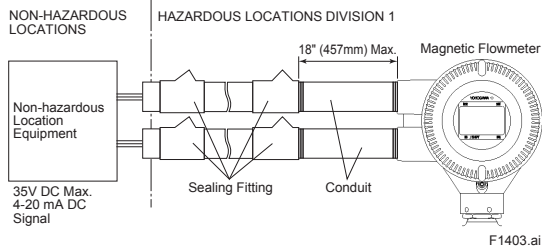

Figure 14.2 Conduit Wiring
- In hazardous locations, wiring to be in conduit as shown in Figure 14.2.
(3) Operation